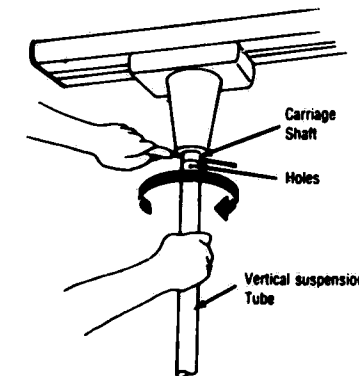

Figure 4-3. ATTACHING TUBE TO CARRIAGE.
3. Put a screwdriver through the shaft (to prevent it from turning) and tighten the tube until the holes line up. Then remove the screwdriver (Fig. 4-3).